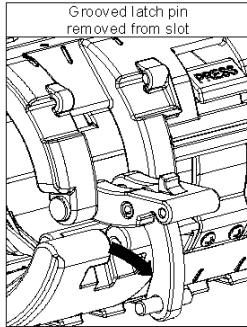

Figure 5.8
- 5.2.3 Remove Grooved Latch Pin from slot (Figure 5.8)